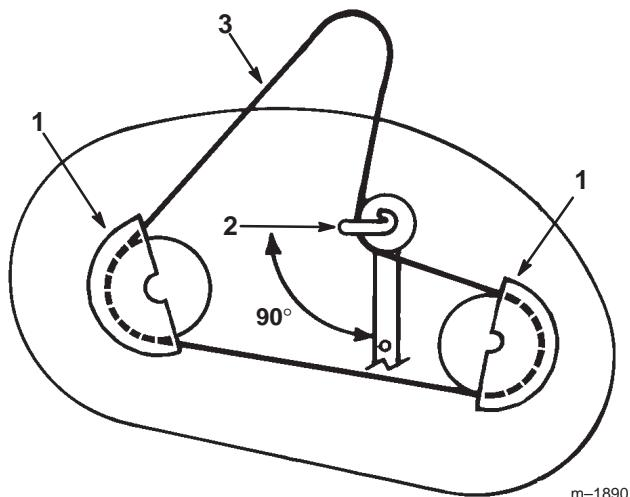

Figure 46
2. Remove the pulley cover mounting screws and pulley covers from both blade pulleys (Fig. 46).
3. Loosen, but do not remove, the bolt and nut securing the idler pulley and belt guide (Fig. 46).
2. Position the idler pulley belt guide so it points toward the left, 90° to the idler arm (Fig. 46). Tighten the mounting bolt and locknut securing the idler pulley and belt guide.
3. Install the left and right pulley covers with the mounting screws (Fig. 46).